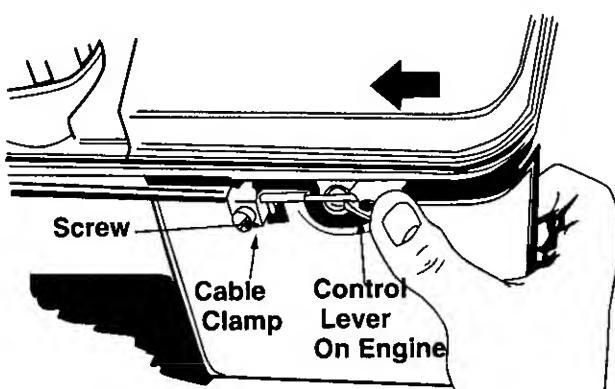

Figure 12.
- Remove the screw shown in figure 12. Remove the cable clamp from the cable.